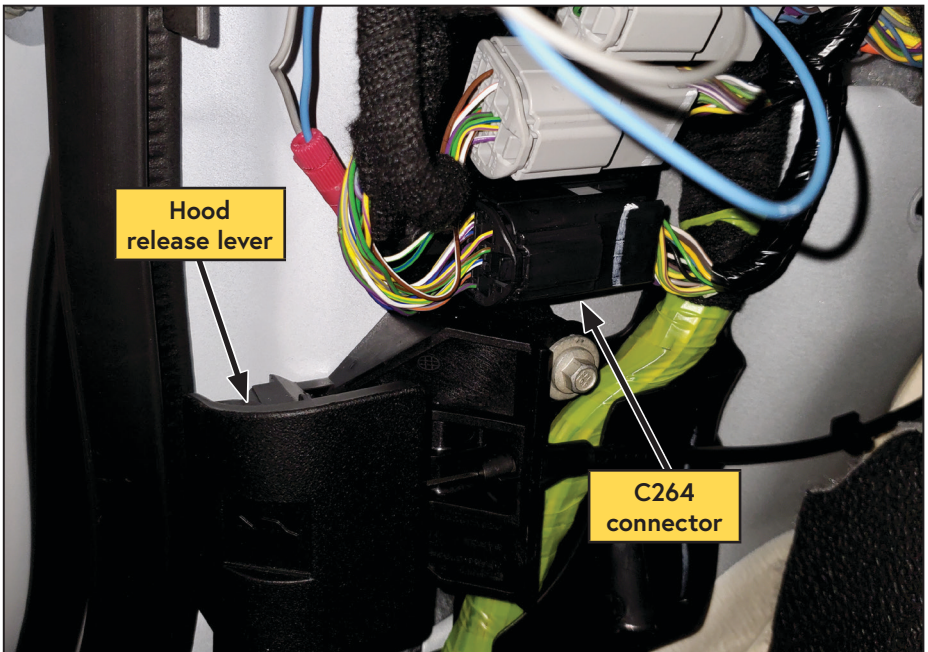

Figure 37 — Locate C264 connector
- Locate the black C264 connector (Figure 37)